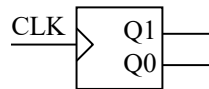

Figure 2: Simple counter block diagram.
- Design a counter (shown in Figure 2) to count through the sequence 00, 01, 11, 10, 00, ... Note that there is only a single input (CLK) and two active-high outputs (Q1 and Q0). (To start the counter at a known value, use the pre-sets and pre-clears of the two flip-flops.)